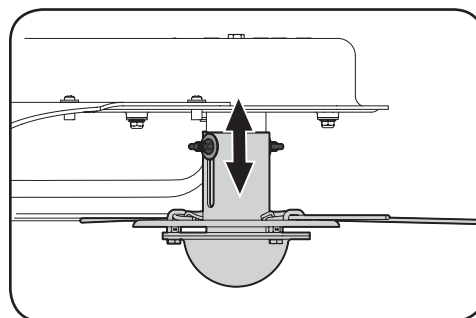

Figure 4-2
2. Slide the spindle upward or downward to the desired position before retightening the wing nuts. See Figure 4-2.